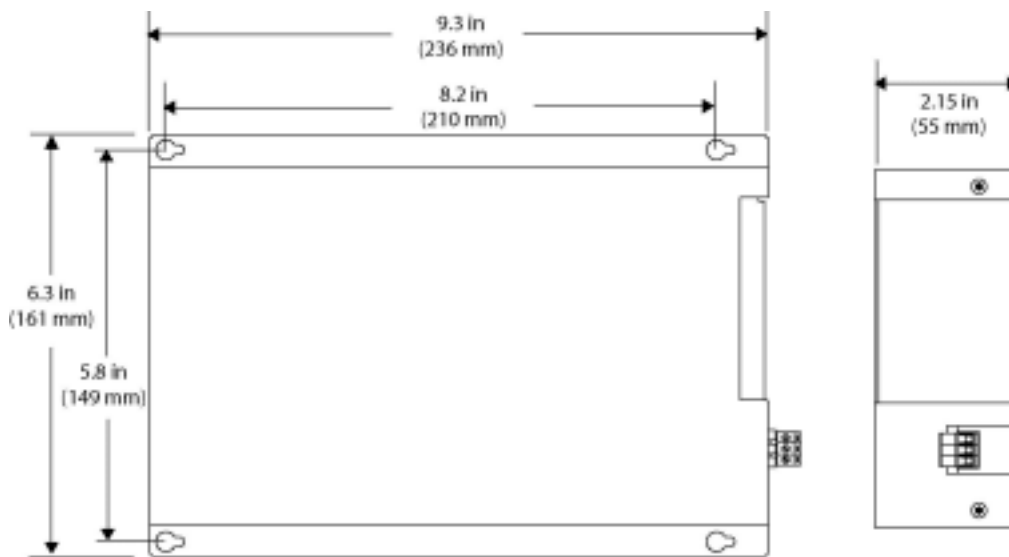

Figure 6. 502R Rack Card Enclosure Mounting Data
- 3) Determine where the module will be installed, and ensure that there is adequate space for making the various cable connections and for reading the diagnostic LEDs. See Figure 6.